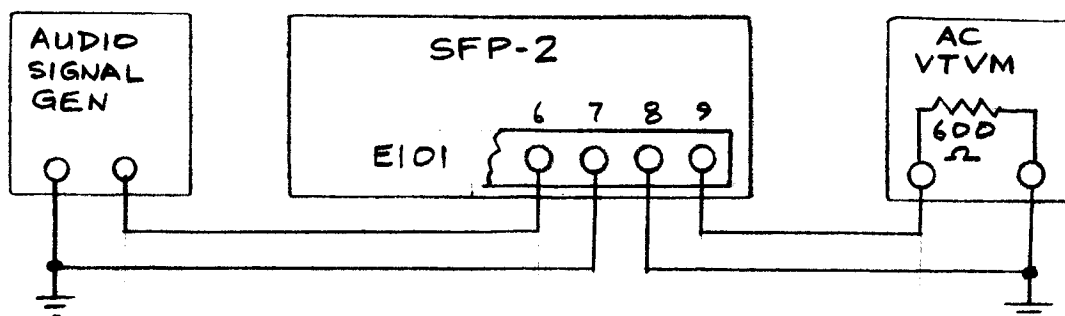

Figure 2.
2. For CHANNEL 2, connect test equipment as shown in Figure 2: